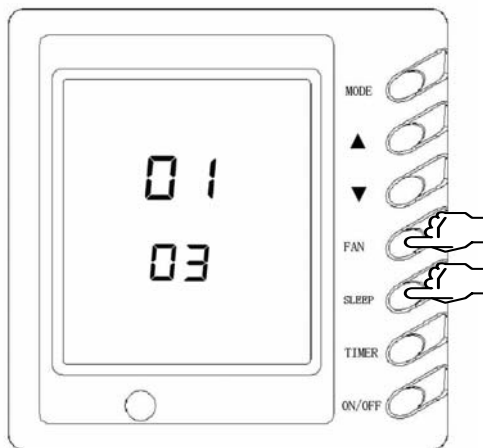

Fig.10
Under off state of unit, press FAN and SLEEP/SWING buttons at the same time for 5s into setting interface, as shown in Fig.10. "01" is displayed in ambient temp displaying area and setting mode code is displayed in temp displaying area which can be adjusted by pressing ▲ or ▼, 4 kinds of selection:
- ③: Under heating mode, select wired controller's temp sensor or under other modes select air inlet's temp sensor and setting temp area displays 03, as shown in Fig.10.
Factory default is the third mode, as shown in Fig.10.